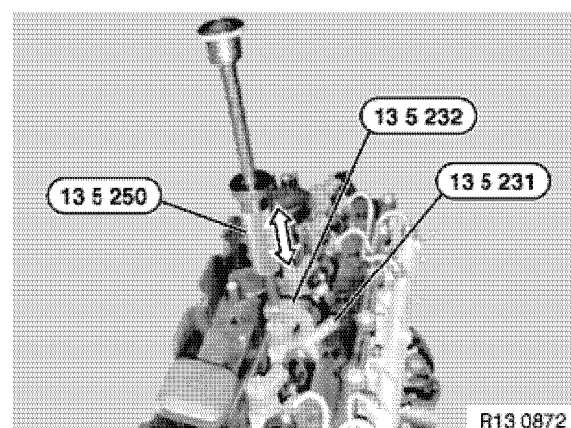

Figure 6-11
8. If the injector is stuck, assemble special tools OEM No. 13 5 250, 13 5 231 and 13 5 232 and fasten to injector high-pressure fuel line connection. Remove using slide hammer (**Figure 6-11**).